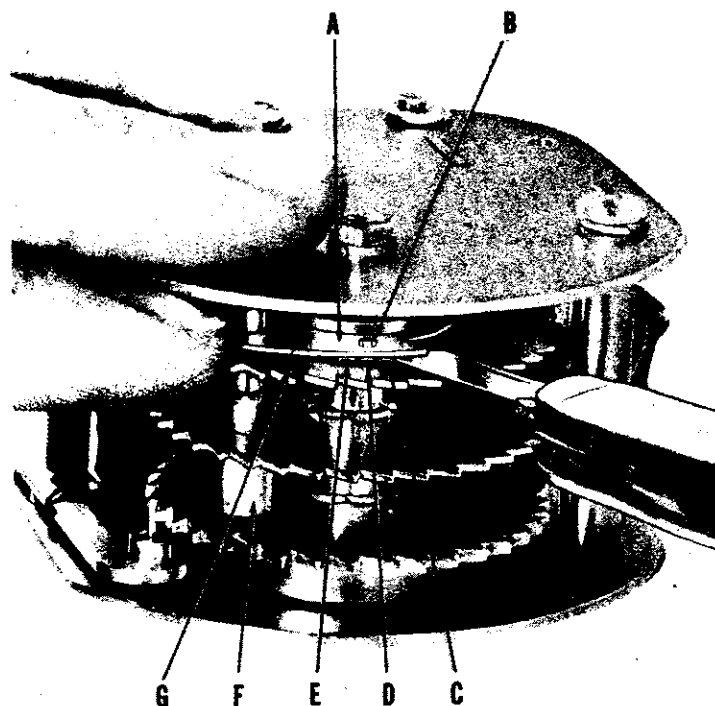

FIG. 5—View of Accumulator
- A. Insert thin blade of pocket knife under quarter wafer (A-Fig. 5), twist slightly, raising wafer pin (B-Fig. 5) from hole.
- B. Keep quarter wheel (G-Fig. 5) from rotating and move quarter wafer until wafer pin drops into six play hole (C-Fig. 5) farthest from ratchet spring stud (F-Fig. 5).
- B. Keep quarter wheel from rotating and move quarter wafer until wafer pin drops into three play hole (E-Fig. 5) closest to ratchet spring stud (F-Fig. 5).